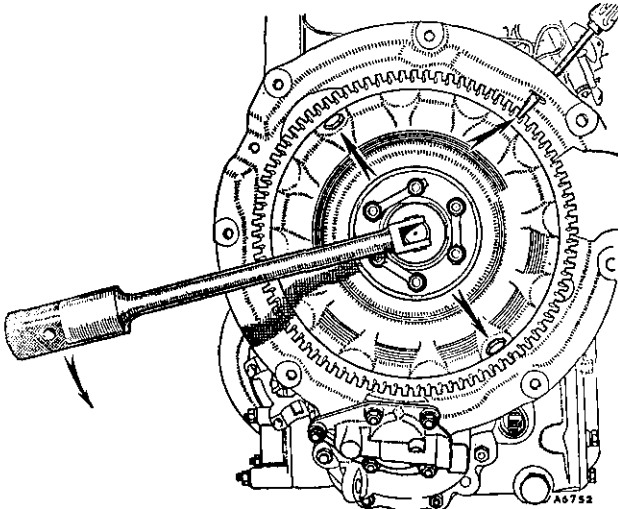

Fig. Aa.6
- (2) Remove the radiator mounting bracket from the transmission case.
- (3) Remove the starter motor and converter cover.
- (4) Drain the transmission.
- (5) Knock back the lock washer on the converter centre bolt. Hold the converter from turning with a suitable screwdriver inserted through the hole in the converter housing. Using Service tool 18G 587, remove the centre bolt (Fig. Aa.6).